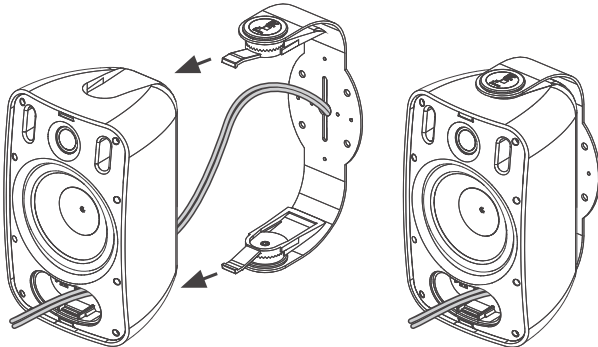

FIGURE 10:
6. Slide the speakers onto the brackets until the locks snap into place (see figure 10).